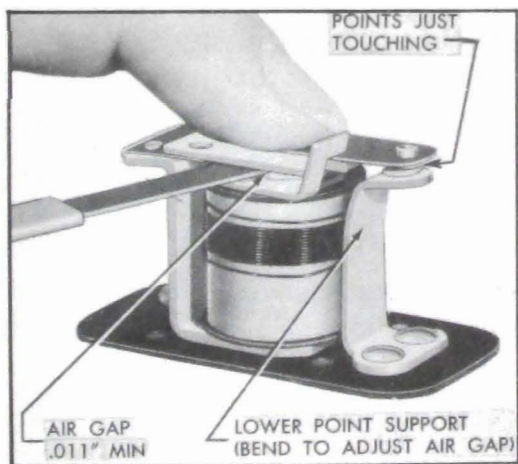

Figure 10-41—Relay Air Gap Adjustment
2. Push relay armature down until contact points just touch, then check air gap between armature and core with feeler gauges. Air gap should be .011" minimum and may be adjusted, if necessary, by bending the lower point support. See figure 10-41.